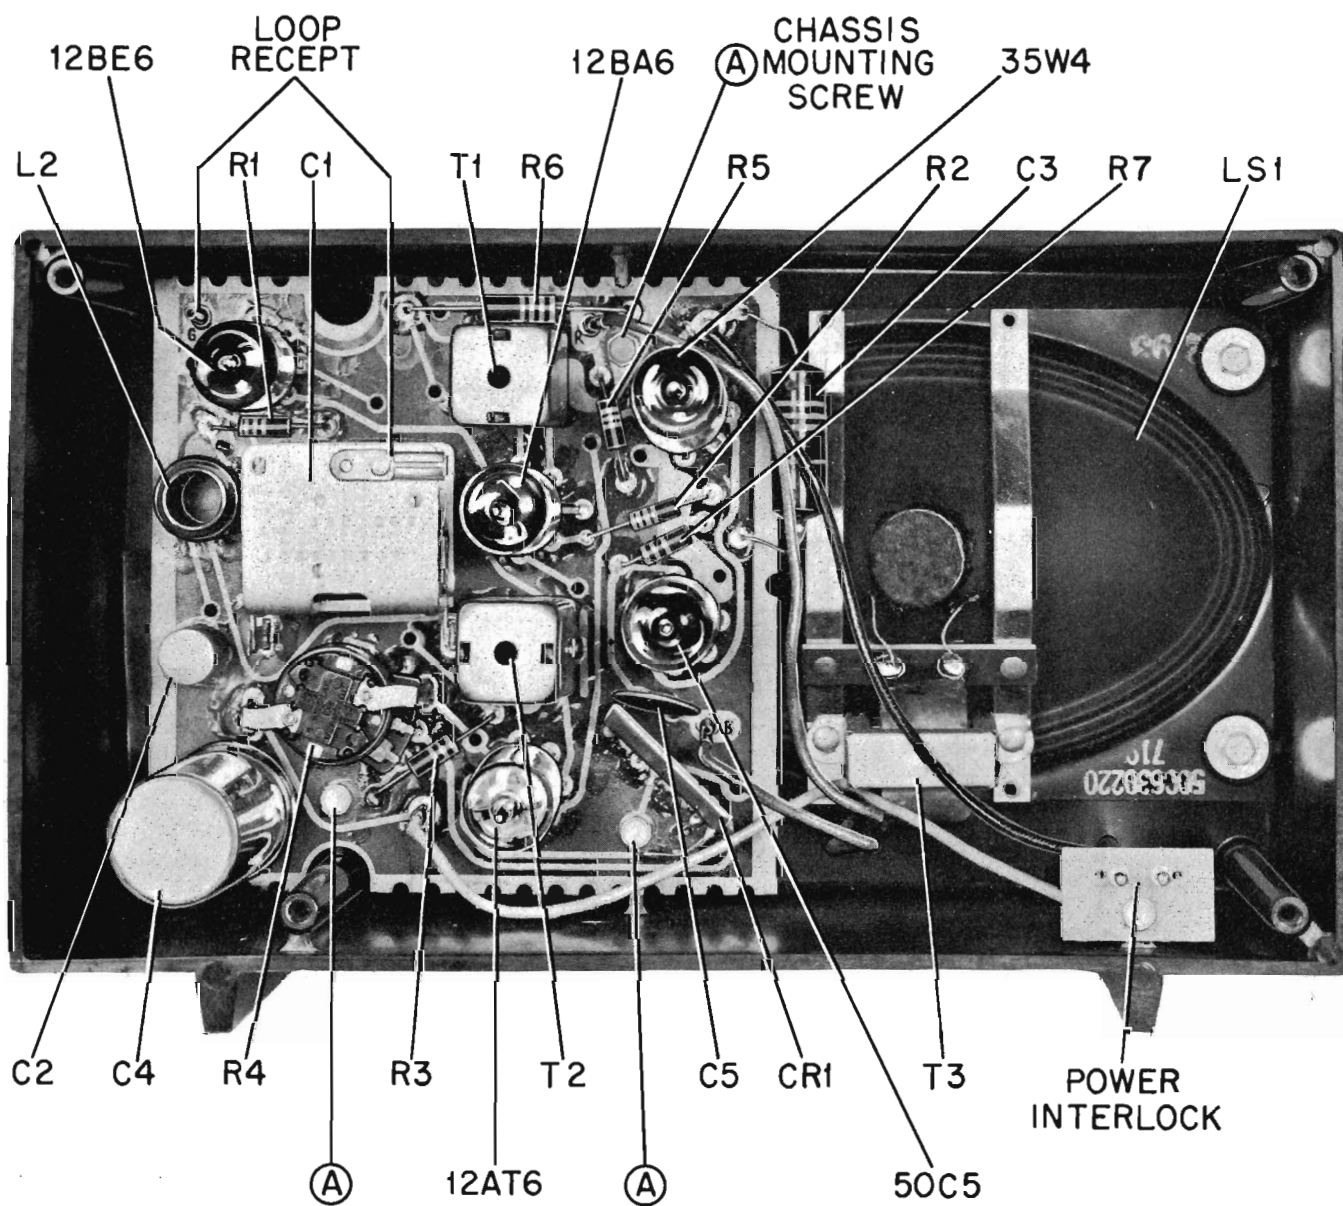

FIGURE 3. REAR VIEW OF RECEIVER
6. From the back, remove the three screws which mount the chassis. See Figure 3.